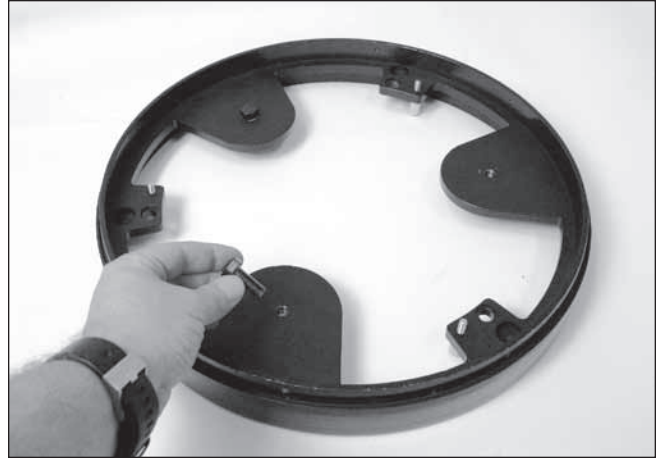

Figure 19. Thread the three counterweight mounting bolts into the holes in the rear end ring and tighten them firmly with a wrench.
2. Thread the three counterweight mounting bolts into their respective holes in the rear end ring, as shown in **Figure 19**. The head of the bolts should be nearest to the primary mirror; the threaded end of the bolts should protrude outward, on the same side of the support structure as the collimation knobs. Use an adjustable wrench or a 16mm crescent wrench to firmly tighten the bolts.